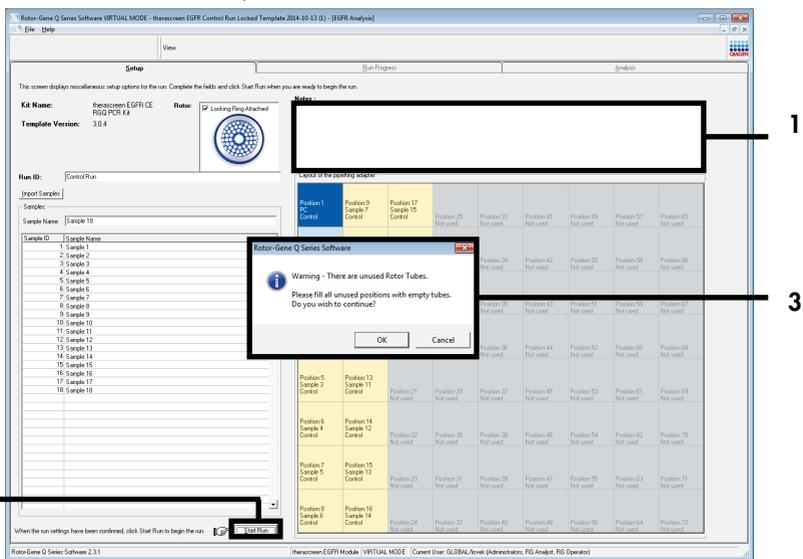

Figure 5. “Notes” field (1), “Start Run” button (2) and “Warning” of unused rotor positions (3).
16. When all sample names are entered, verify that they are correct. Add any additional information in the **Notes** field if necessary, then click **Start Run** (Figure 5).
Note: If any rotor position is unused, a “Warning” will appear (Figure 5) to remind the user that all unused positions on the rotor must be filled with capped, empty tubes. Check that all unused rotor positions are filled with capped, empty tubes and click **OK** to proceed. The “Save As” window will open.